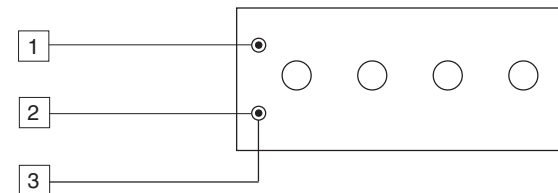

Fig. 5.1
- Connect a resistor box as shown in Fig. 5.1.
- Set the resistance box to  $400.00 \Omega$  (see Fig. 5.1).
If a different value is displayed, set the resistance box to  $400.00 \Omega$  (see Fig. 5.1)